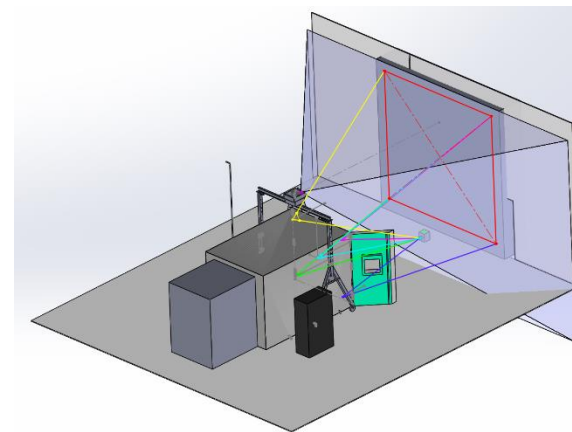

Figure 3 – Temperature Chamber testing environment
3. general purpose instrument optimal design (see figs 3 and 4)